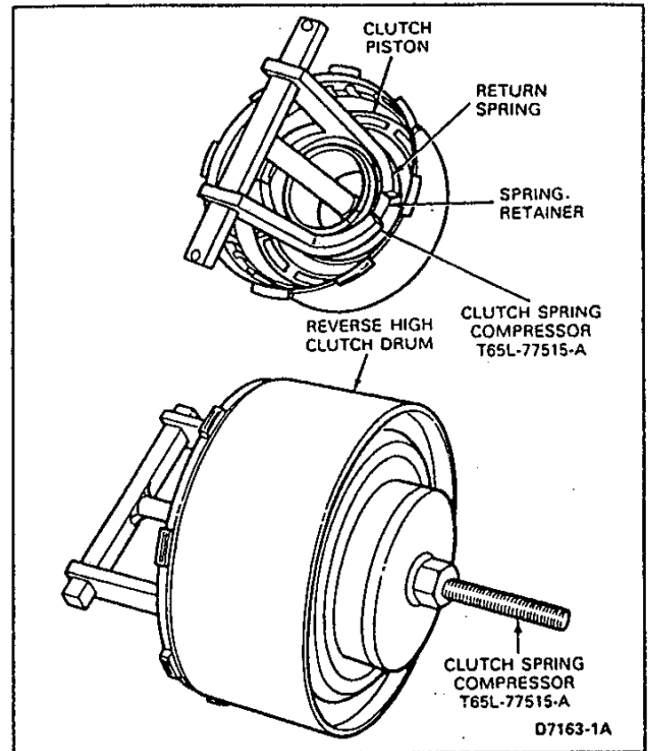

FIG. 41 Removing or Installing Reverse-High Clutch Piston Snap Ring
3. Install Clutch Spring Compressor, Tool T65L-77515-A (Fig. 41) on the reverse-high clutch drum. Make sure that the legs clear the snap ring enough to remove it. Remove the snap ring and remove the tool.
5. Install Clutch Spring Compressor, Tool T65L-77515-A (Fig. 41) and compress the springs. Make certain that the spring retainer is centered while compressing the springs. Install the snap ring. Before releasing the pressure on the tool, make certain that the snap ring is positioned